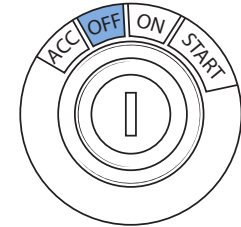

Figure 6 - Start switch
3. Turn the start switch to the “OFF” position (**Figure 6**).